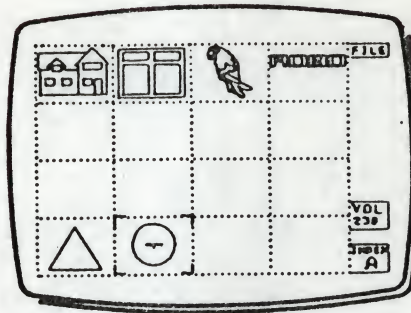

Fig 1
- 3 Press and release T to file your circle in an empty library box (Fig 1).